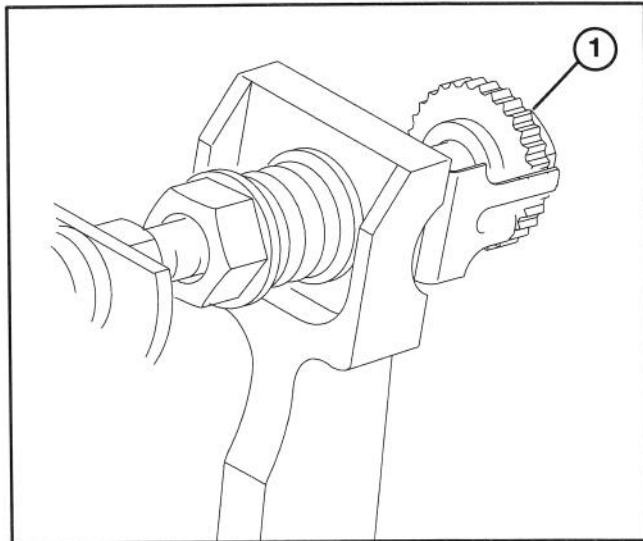

Figure 1
ADJUSTING BEDKNIFE TO REEL (Fig. 1–3)
1. A 19 mm (3/4 inch) wrench will be needed to rotate bedknife adjustment knob. Each notch on the knob will move the bedknife .0005 inches (.013 mm) (Fig. 1).